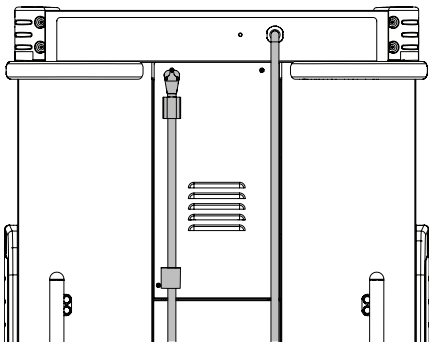

FIGURE 1:
5. The power cord is located at the back of the cabinet as shown in Figure 1.